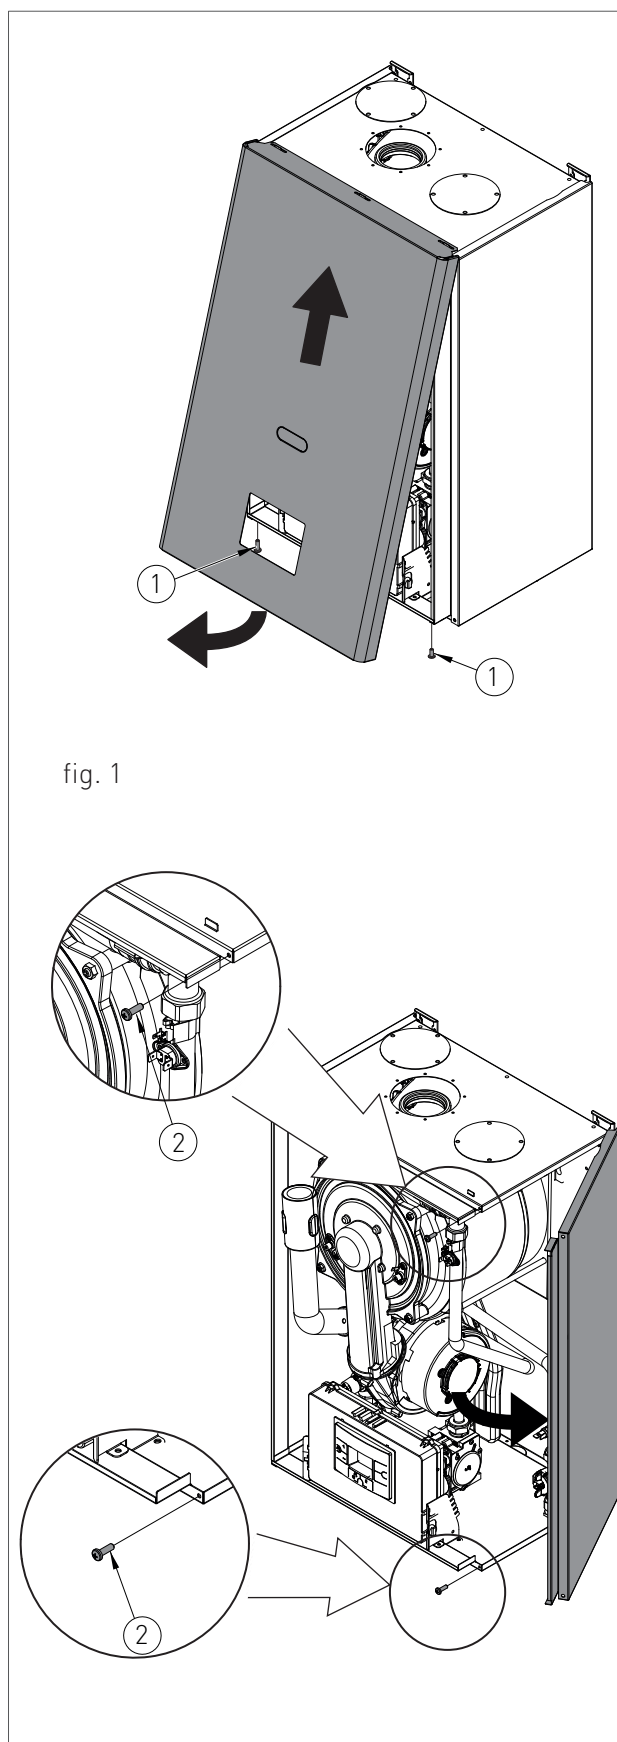

fig. 1
- › remove the fastening screws (1 - fig.1) placed on the lower edge of the front panel;
- › grab the front panel from the bottom and remove it pulling it to yourself and then upwards (see fig. 1).
- › remove the fastening screws (2 - fig.1) placed on the front edge of the side panel;
- › grab the bottom of the panel and remove it by moving it sideways and then pulling it upwards (see fig. 1).
- › Grab at the same time the support brackets of the control panel (fig. 1) loosening them and turn the panel downwards;
- › unscrew the two fastening screws 1 - fig. 1;
- › disengage the four hooks '2' - fig. 1;